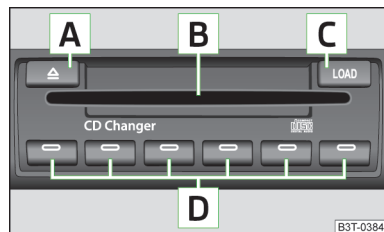

Fig. 131
➤ Touch the button [C] » Fig. 131 and guide the CD (compact disc) into the CD-case [B]. The CD is automatically loaded onto the lowest free position in the CD changer. The indicator light in the corresponding button [D] stops flashing.
➤ Press and hold the button [C] » Fig. 131 for longer than 2 seconds and guide the CDs one after the other (maximum 6 CDs) into the CD case [B]. The indicator lights in the buttons [D] stop flashing.
➤ Press the button [C] » Fig. 131. The indicator lights in the buttons [D] illuminate the memory spaces that are already assigned and flash in the case of free memory spaces.
➤ Press the button [A] » Fig. 131 to eject a CD. For assigned memory spaces, the indicator lights now illuminate in the buttons [D].
► Press and hold the button **A** » Fig. 131 for more than 2 seconds. All CDs in the CD-changer are ejected consecutively.
- Insert a CD, with the labelled side facing up, into the CD slot **B** » Fig. 131 until it is automatically drawn in. The play function will start automatically.